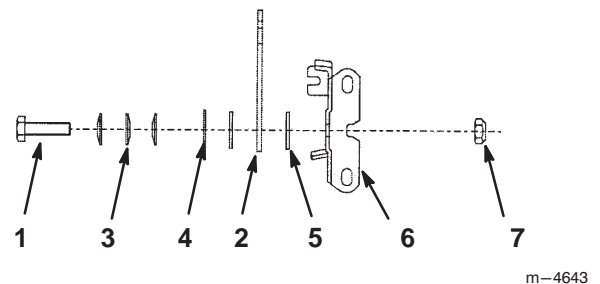

Figure 44
3. Tighten nut and bolt. Test lever and adjust to desired tension (Fig. 44).